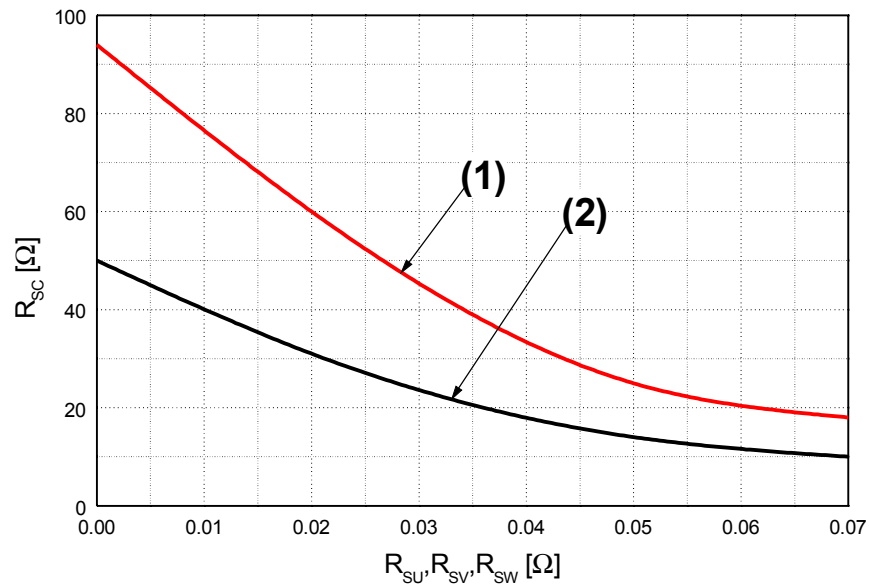

Fig. 7. R_{SC} Variation by change of Shunt Resistors (R_{SU}, R_{SV}, R_{SW}) for Short-Circuit Protection
5. Short-circuit current protection is functioning only at the low-sides. It would be recommended that the value of the external sensing resistor (R_{SC}) should be selected around 50 Ω in order to make the SC trip-level of about 30A at the shunt resistors (R_{SU}, R_{SV}, R_{SW}) of 0 Ω . For the detailed information about the relationship between the external sensing resistor (R_{SC}) and the shunt resistors (R_{SU}, R_{SV}, R_{SW}), please see Fig. 7.